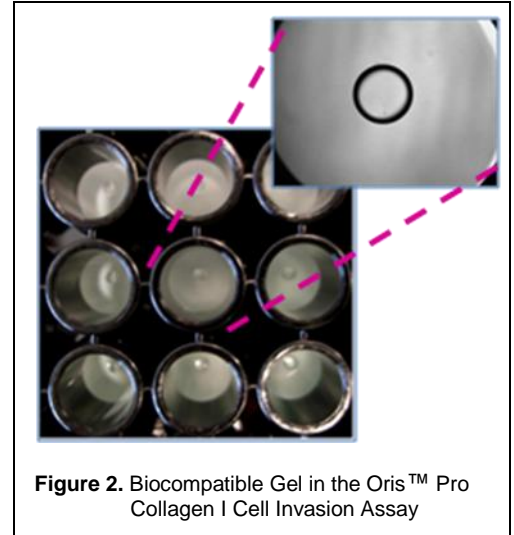

Figure 2. Biocompatible Gel in the Oris™ Pro Collagen I Cell Invasion Assay
4. Incubate the seeded plate(s) containing the Oris™ Pro Biocompatible Gel (see Figure 2) in a humidified chamber (37°C, 5% CO₂) for 30 minutes to 2 hours (cell line dependent) to permit cell attachment.